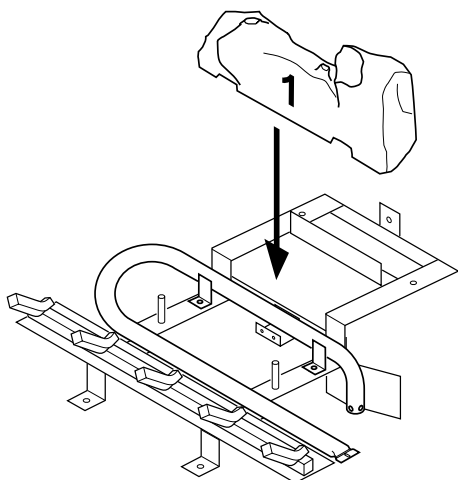

Figure 40 - Installing Log No. 1
2. Place log #1 (back log) on top of grate. Make sure the notches in the bottom of the log fit over the grate (see Figure 40).